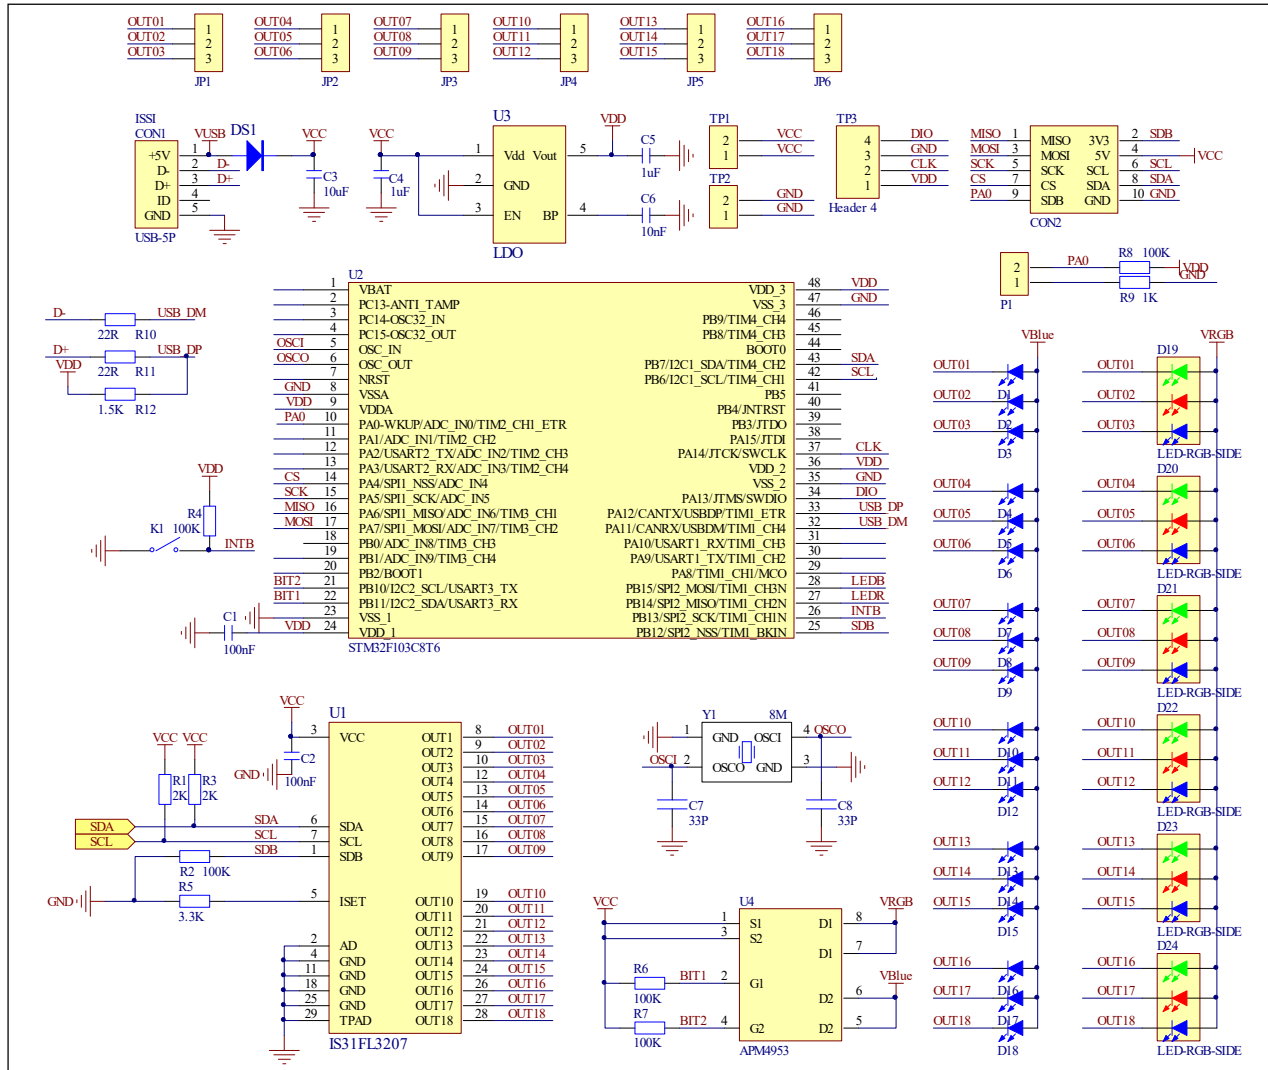

Figure 3: IS31FL3207 Application Schematic
*Bill of Materials, refer to Figure 3 above.*